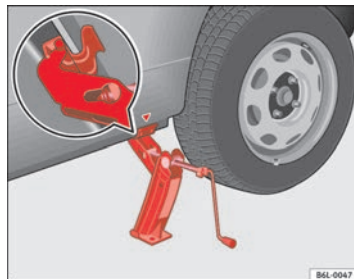

Fig. 126 Fitting the jack
- Align the jack so that the arm of the jack fits around the rib under the door sill and the movable base plate of the jack is flat on the ground ⇒ fig. 126.